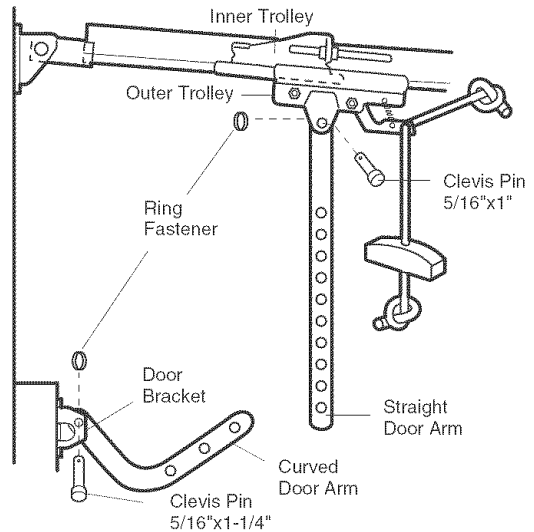

Figure 1
- Make sure garage door is fully closed. Pull the emergency release handle to disconnect the outer trolley from the inner trolley. Slide the outer trolley back (away from the door) about 2" (5 cm) as shown in Figures 1, 2 and 3.
• **Figure 1:**